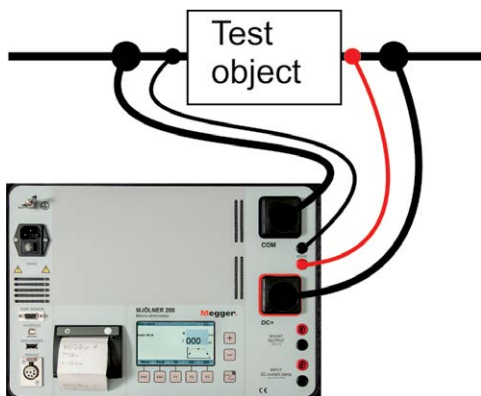

Fig. 5.1 On MJÖLNER 600 the current outputs have reverse position.
**Note** *The sensing cables must be connected inside the current cables. Otherwise the test data may be incorrect. See Fig. 5.1*